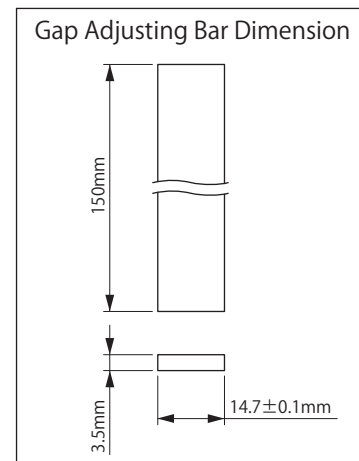

Figure 8-17
- (3) Insert a gap adjustment bar (An angle plate should be prepared by customer. See Figure 8-17) into the groove of adjustment screw [2] between the outer disk [14] and the center ring [1].